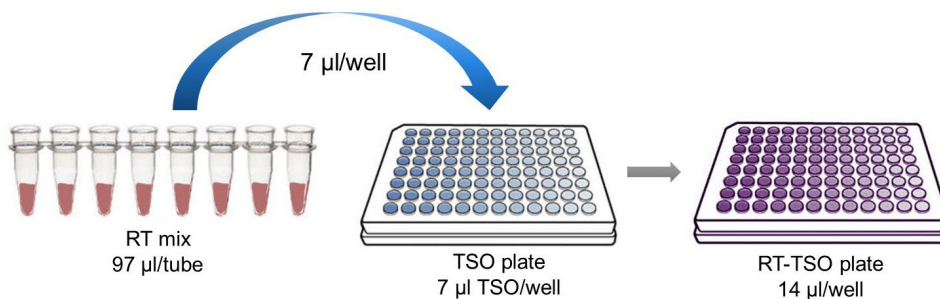

Figure 8. Creating the RT-TSO plate. The workflow illustrates Steps 8–9.
- Using a multichannel pipette, add 7 µl RT mix into each well of the **TSO plate** to create the **RT-TSO plate** (Figure 8). There is no need to pipette up and down to mix. Centrifuge the plate at 1,000g for 1 min at 4°C.